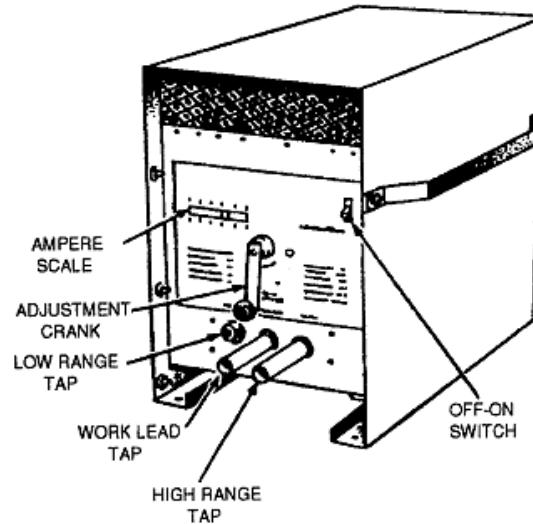

Figure 7-2.—An ac arc-welding transformer.
**ALTERNATING-CURRENT TRANSFORMER WELDING MACHINES.**—Practically all the alternating current (ac) arc-welding machines in use are the static-transformer type, as shown in figure 7-2. These types of machines are the smallest, least expensive, and the lightest type of welders made. Industrial applications for manual operation use machines having 200, 300, and 400 ampere ratings. Machines with a 150-ampere rating are used in light industrial, garage, and job/shop welding.